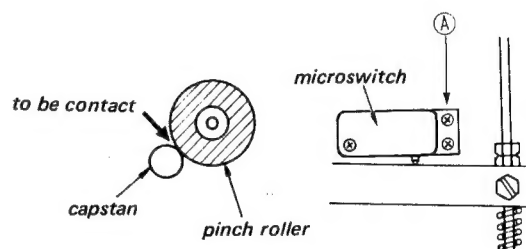

Fig. 5-1-5. Microswitch position adjustment
1. Check to see that the microswitch (for pinch roller solenoid) is turned on when the pinch roller touches the capstan. See Fig. 5-1-5.